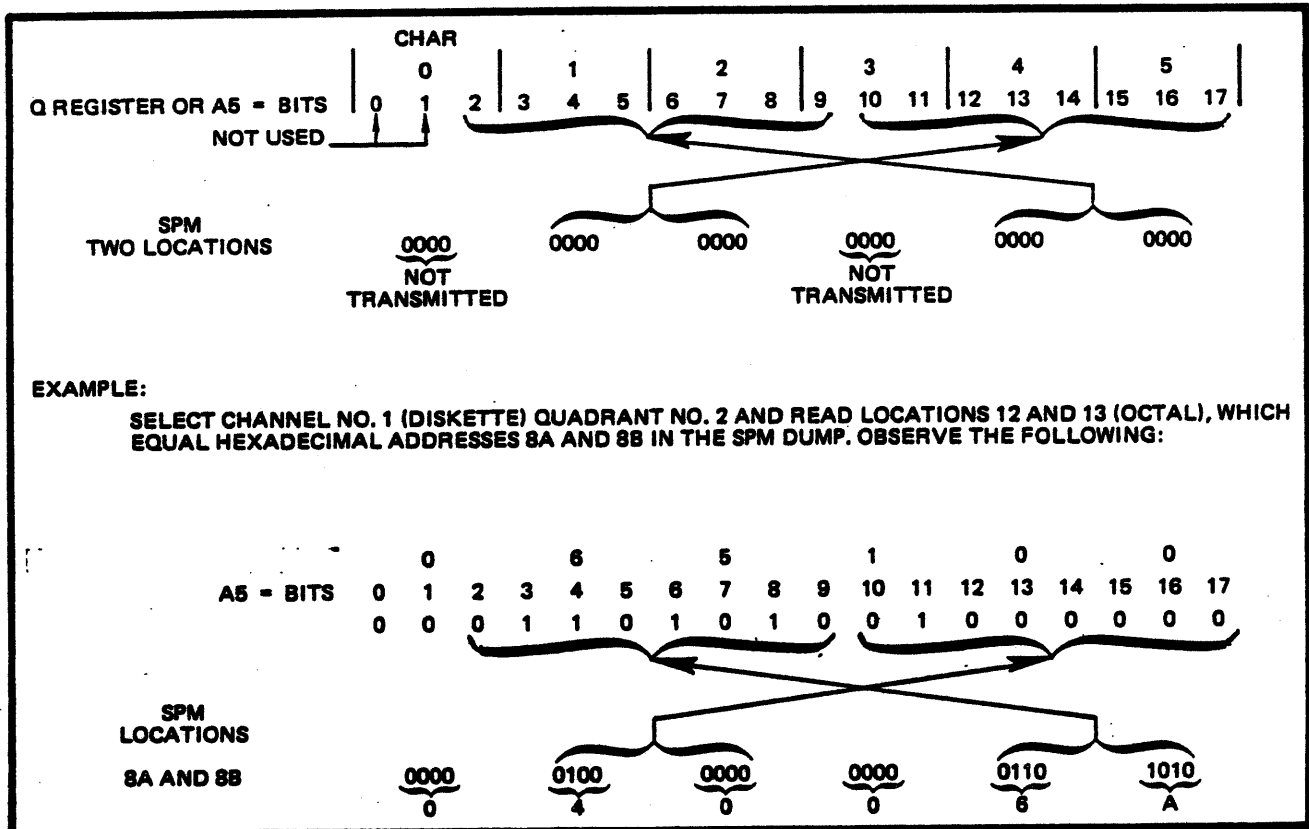

Figure 4-12 Relationship of SPM Data to Register A5 Data
3. The relationship of SPM data to register A5 data is shown in Figure 4-12.